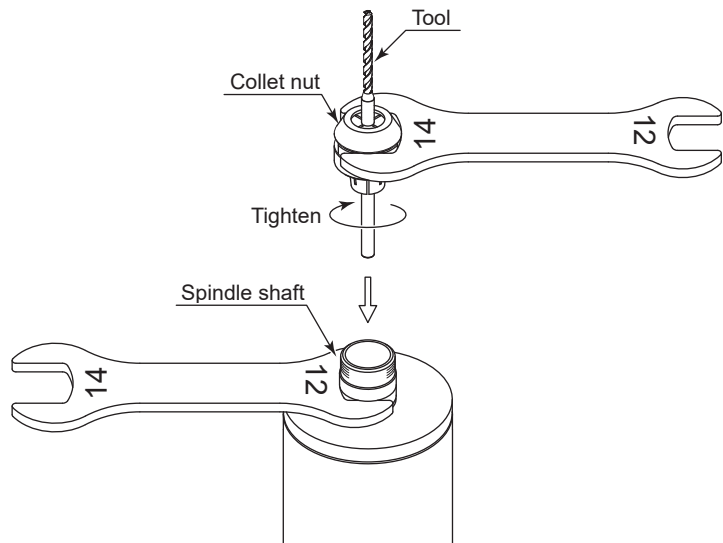

Fig. 6
- (2) Insert the cutting drill into the collet, and attach the cutting drill and the collet nut to the spindle shaft.(Fig. 6)